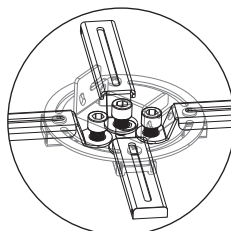

figure 13
3. Connect the installation arms to the projector conversely if the distance of installation holes is less than 120mm. Connect the installation arms (4-2) to the installation base (4-5) via sliding installation button (4-4) as figure 13.